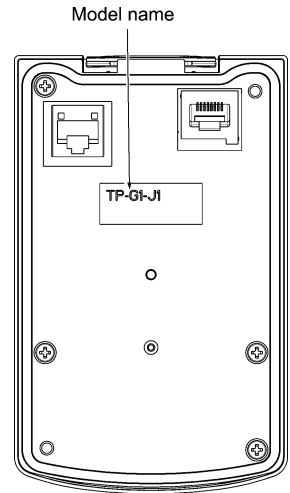

Figure 1.1 Back of Multi-function Keypad TP-G1-J1
- (1) The package contains a multi-function keypad and its instruction manual (this book).
- (2) There have been no problems during transportation. In particular, no parts are damaged or have fallen out of place nor are there any dents on the body.
- (3) The model name "TP-G1-J1" is inscribed on the back of the multi-function keypad as shown in Figure 1.1.